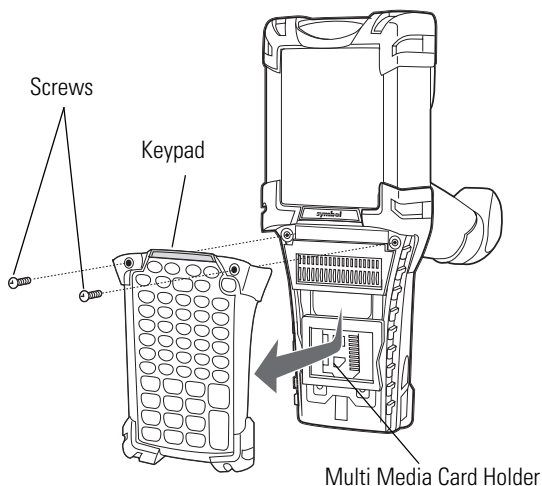

Figure 7-1. Removing the Keypad
The MMC provides secondary non-volatile storage, however the flash memory is slower than RAM. The MMC is located under the keypad, see Figure 7-1 on page 7-5.
1. Remove the two keypad screws and slide the keypad down and lift off (see Figure 7-1 on page 7-5).